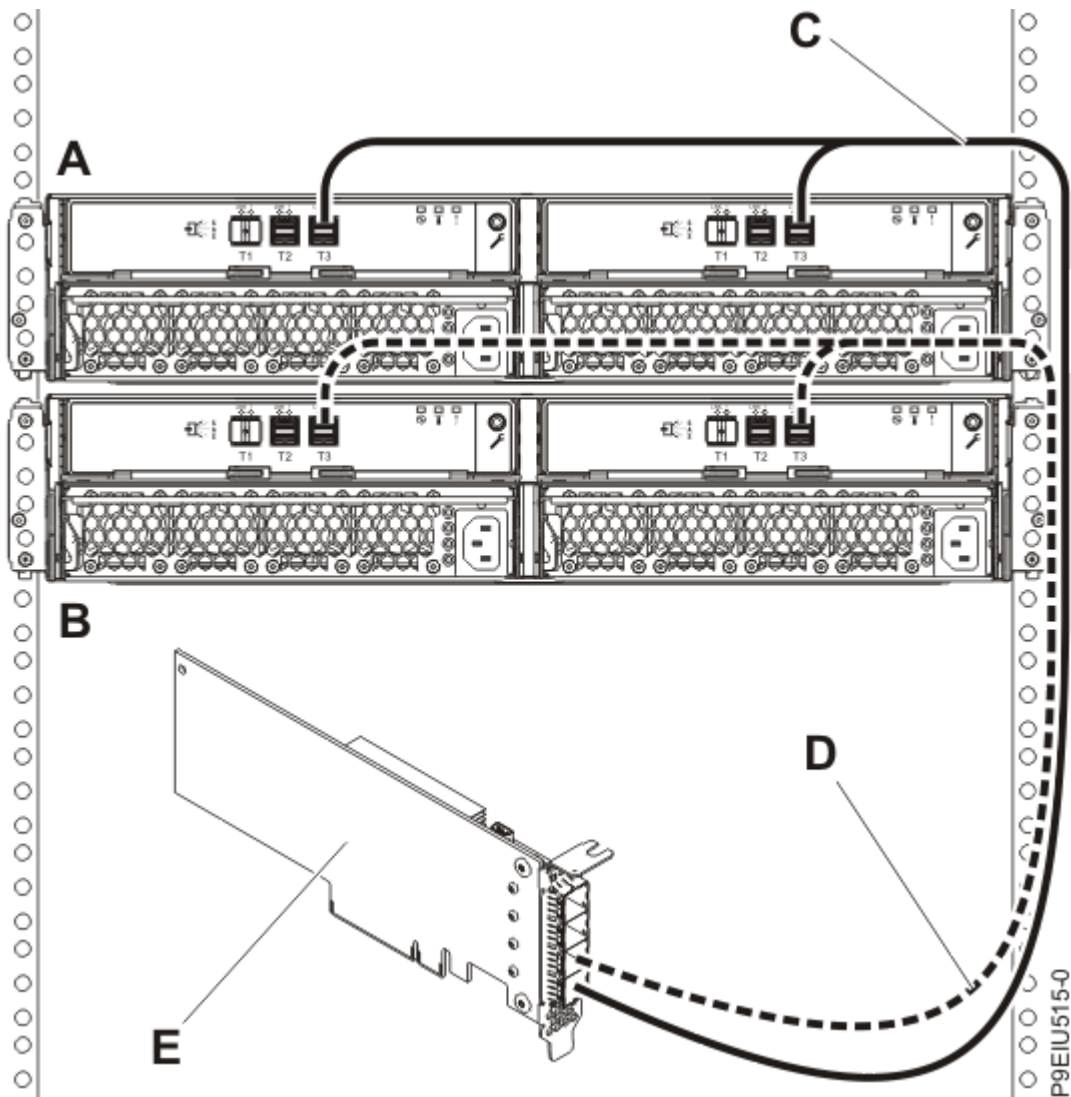

Figure 14: Mode 1 connection of two ESLL or ESLS storage enclosures by using YO12 cables to a single FC EJ0J, FC EJ0K, or FC EJ0M SAS adapter
14. Then, complete a mode 1 connection of two enclosures **(A and B)** by using YO12 cables **(C and D)** to a single FC EJ0J, FC EJ0K, or FC EJ0M SAS adapter **(E)**, as shown in Figure 14 on page 19, and then continue with “Connecting cables, power cords, and installing covers” on page 29.